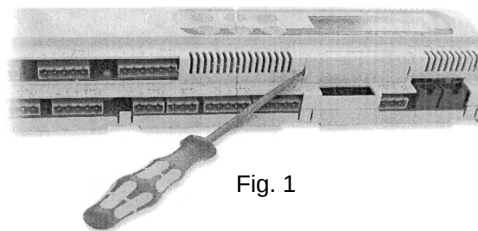

Fig. 1
- Switch off the pCO² and remove the "expansion memory" cover with a screwdriver (see "Copy from pCO² to the Software Key" on page 3–5/Fig. 1)
- Switch off the pCO² and remove the "expansion memory" cover with a screwdriver (see Fig. 1)